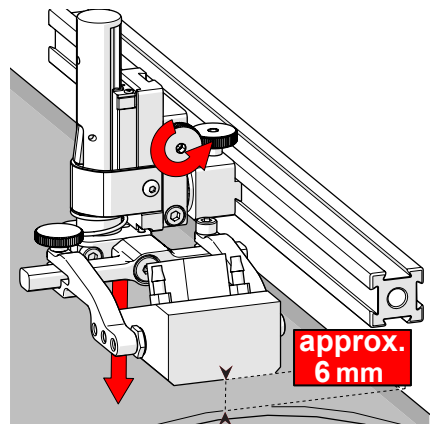

Fig. 128 - Lower toward scan surface
3. Tighten the vertical adjustment knob (Fig. 128).